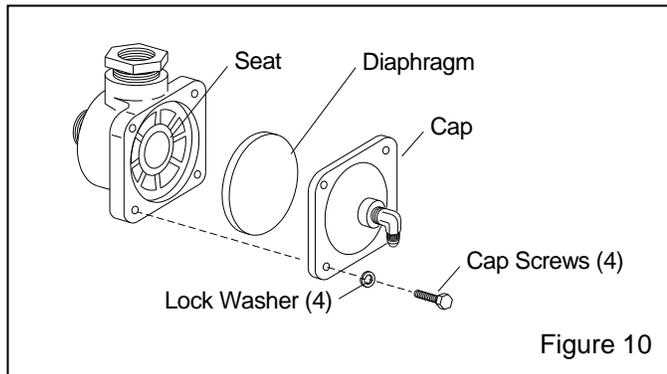

Figure 10
6.5 Diaphragm Outlet Valve, Figure 10